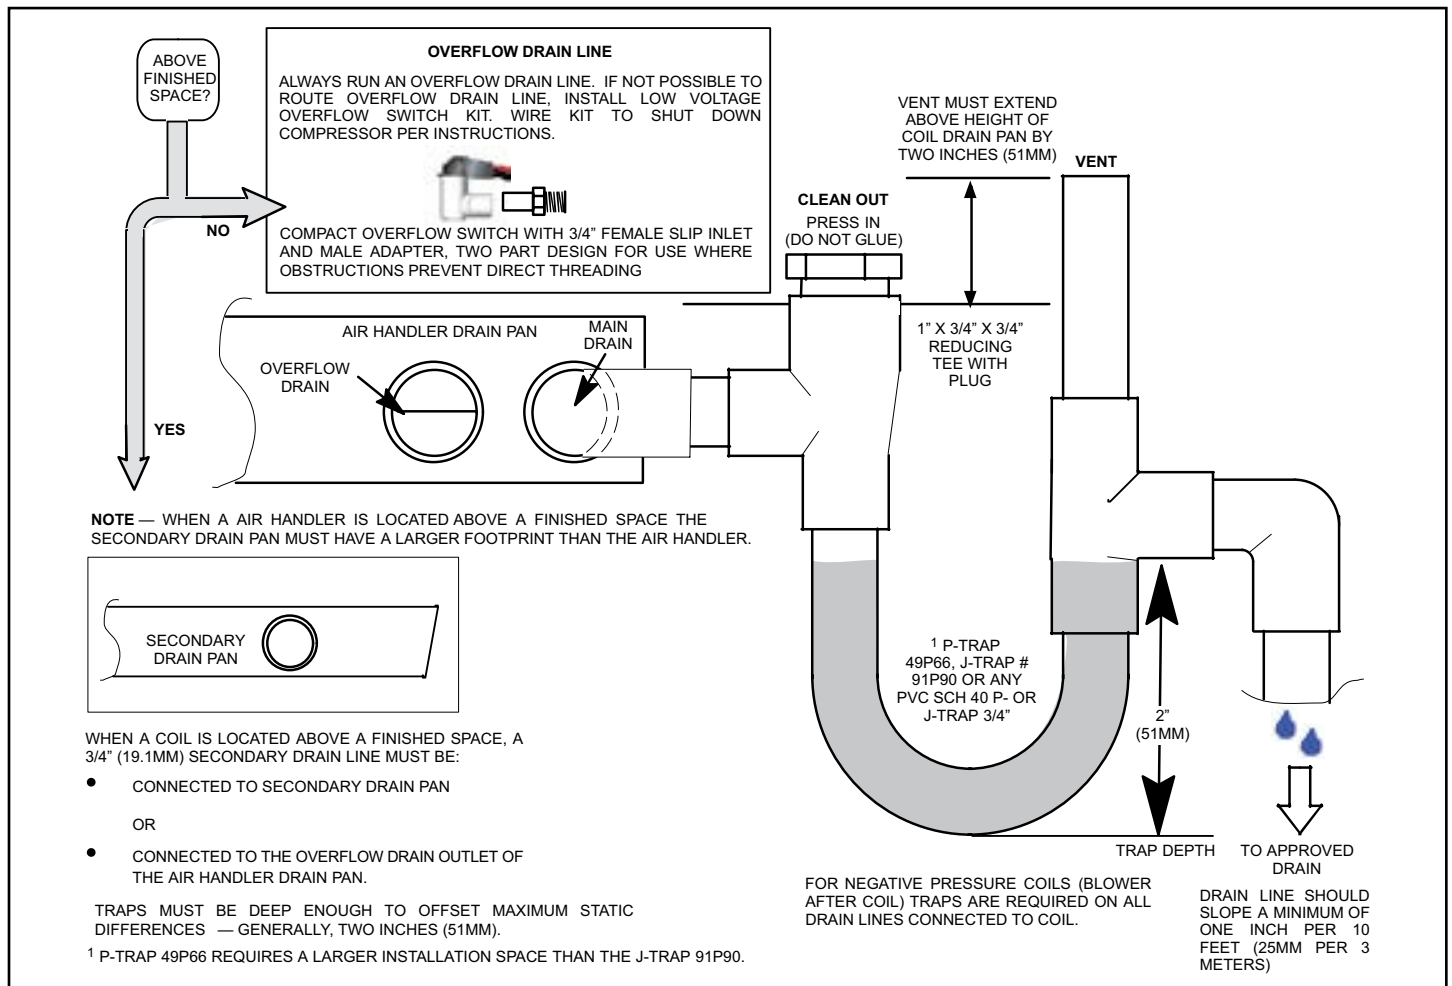

Figure 17. Typical Main and Overflow Drain
6. Install a 2" trap in the main (primary) drain lines as close to the unit as practical (see Figure 17). Make sure the top of the trap is below the connection to the drain pan to allow complete drainage of the pan.
NOTE: Horizontal runs must have an anti-siphon air vent (standpipe) installed ahead of the horizontal run. See Figure 17. An extremely long horizontal run may require an oversized drain line to eliminate air traps.